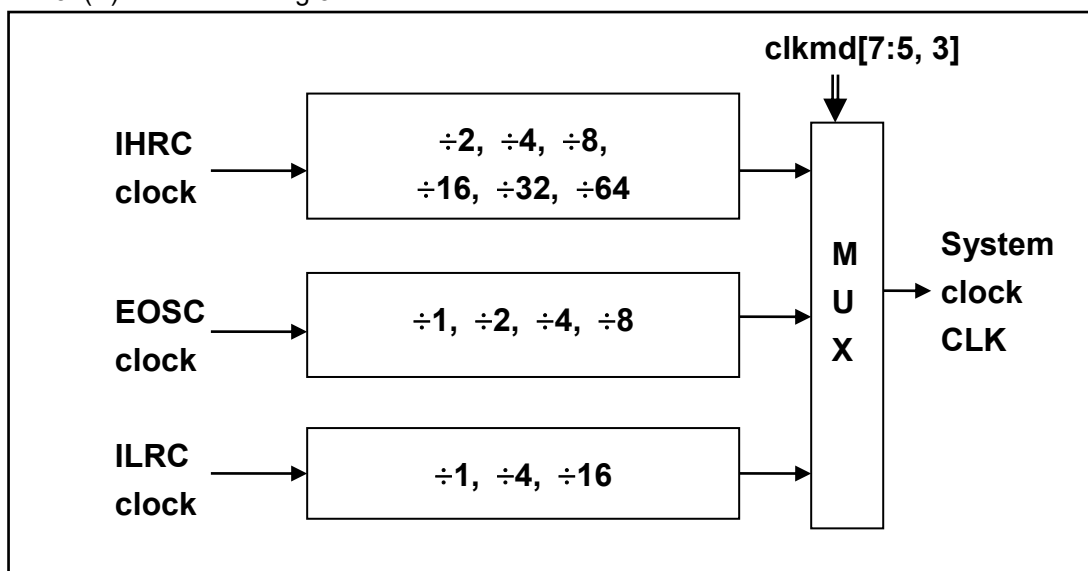

Fig.3: Options of System Clock
The clock source of system clock comes from EOSC, IHRC and ILRC, the hardware diagram of system clock in the PMS132(B) is shown as Fig.3.